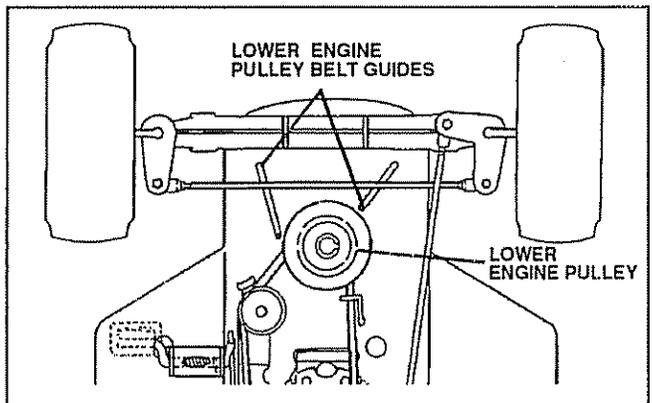

FIG. 23
- Pull lower engine pulley belt guides away from pulley (see Fig. 23).